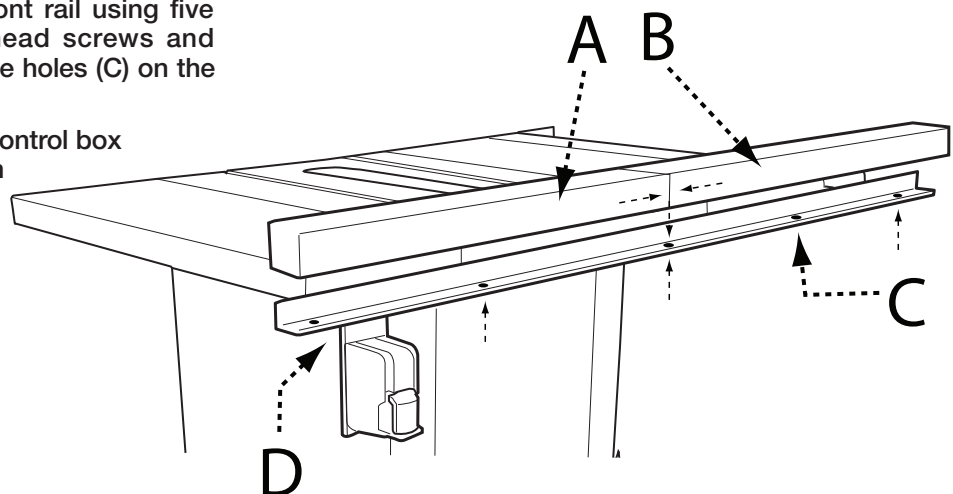

FIGURE 7
1. Connect the two halves of the fence guide (A and B) by inserting the smaller end into the larger end. See Figure 7.
2. Attach the fence guide to the front rail using five 1/4-20 x 1/2-inch hex button head screws and 1/4-inch spring washers through the holes (C) on the bottom side of the front rail.
3. Align the two holes in the power control box bracket with the holes underneath the front rail (D), located on the left side of the saw. Secure the power control box to the front rail using two 1/4-20 x 1/2-inch button head screws.